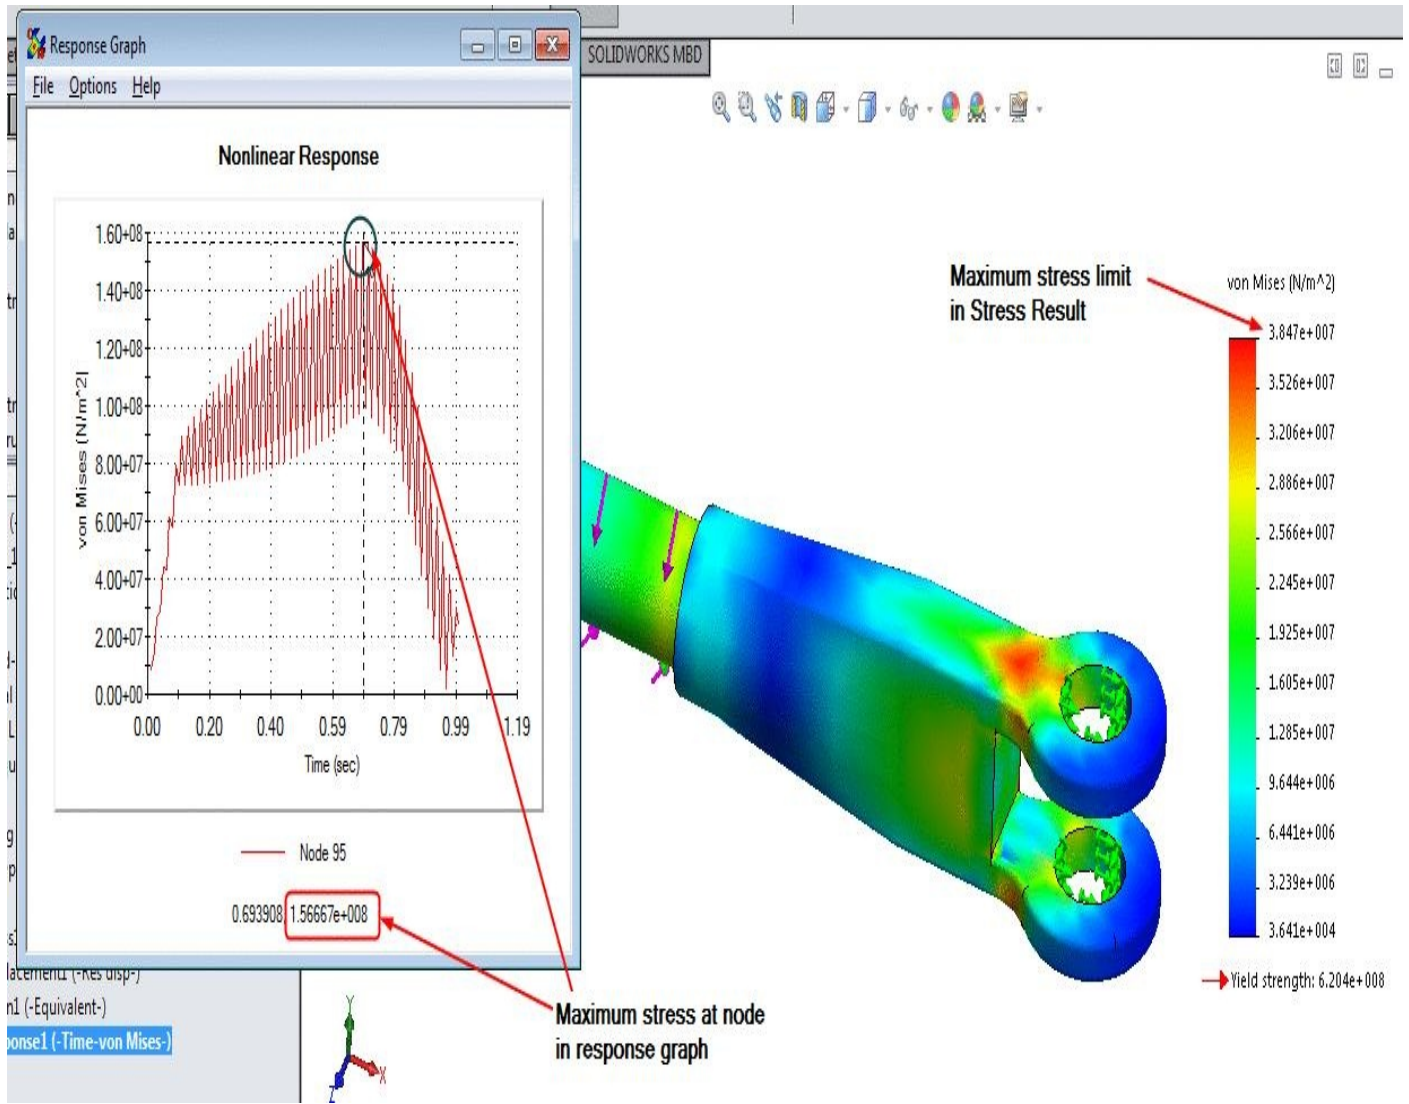

Figure-31. Comparing stress results
- In this way, you can check the response graph of critical areas. Note that the stress of this node has gone up to 1.566×10^8 but in Stress1 result, we don't find any spot with such high stress; refer to Figure-31. So, you can now understand why Response graph is